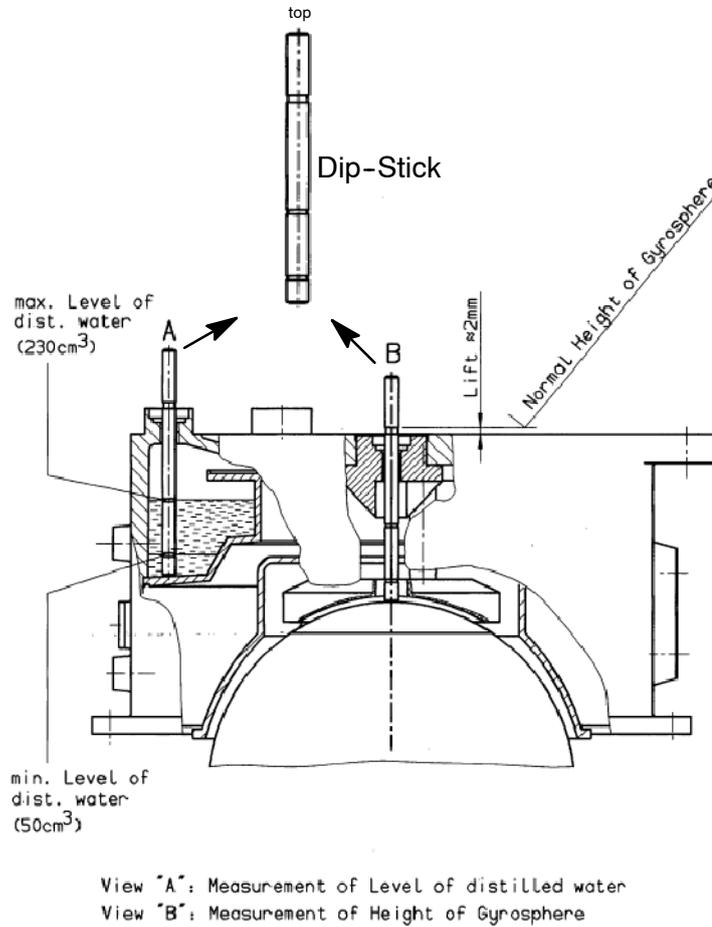

Figure 81: Dip-Stick levels
- Fill in the remaining content of the bottle into the inlet for distilled water until the Dip-Stick shows a level according to Figure 81.